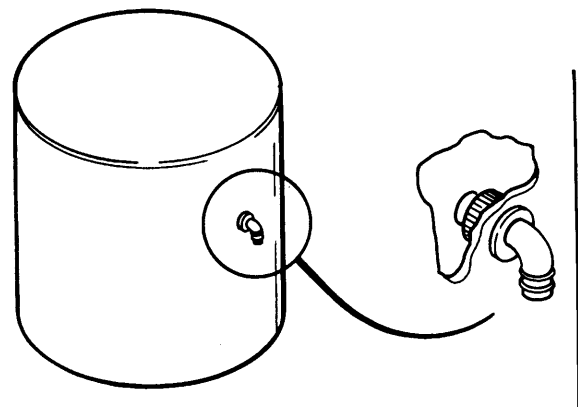

Figure 7
2. Insert the overflow fitting (not supplied) into the tank and tighten with the plastic thumb nut and gasket as illustrated in Figure 7.